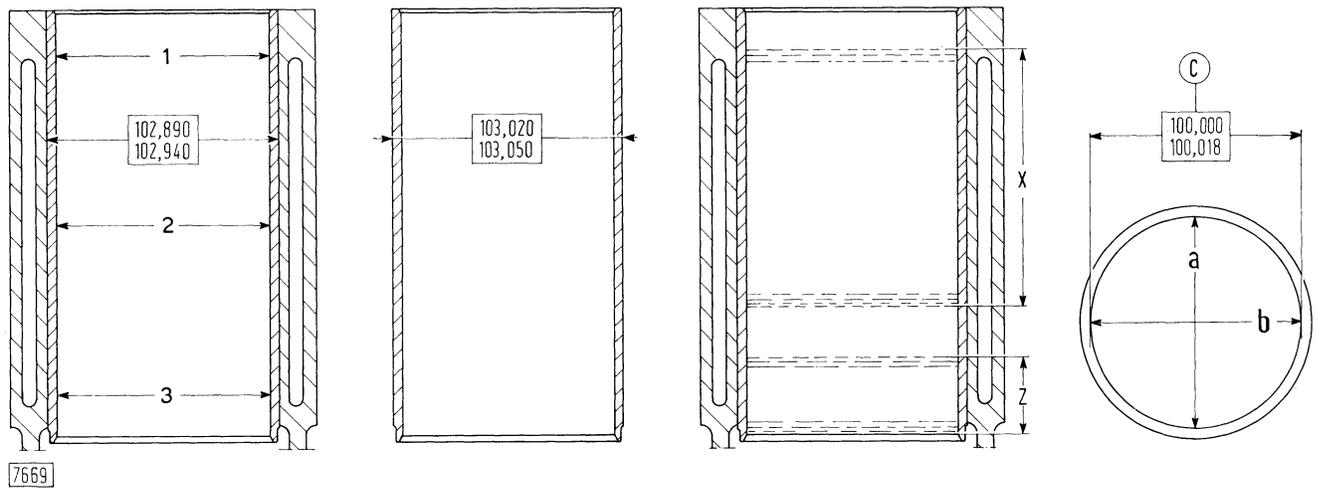
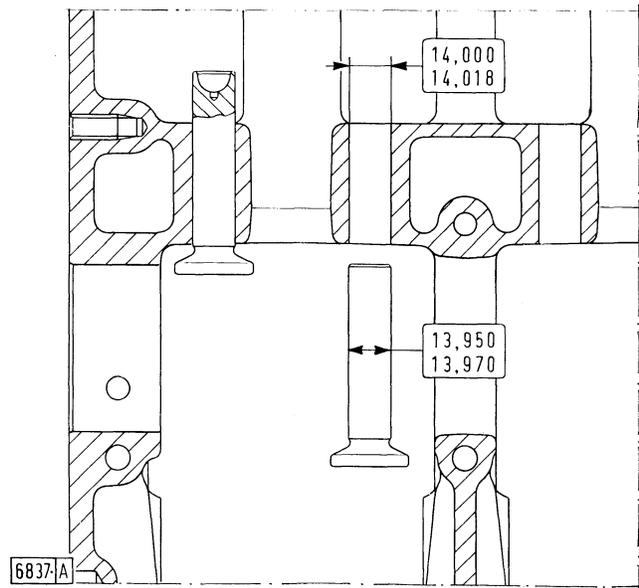

Fig. 8 - Liner and Block Details and Wear Data
Fig. 18 - Tappet and Housing Details
<p>Engine Block</p> <p>Liner bore diameter machining oversize (see Fig. 8)</p> <p>Tappet housing machining oversize range (see Fig. 18)</p> <p>Camshaft bearing housing diameter</p> <p>Main bearing housing diameter</p>	<p>.2 mm (.008 in.)</p> <p>.1 - .2 - .3 mm. (.004 - .008 - .012 in.)</p> <p>See Fig. 14</p> <p>80.587 to 80.607 mm. (3.1727 to 3.1735 in.)</p>
<p>Cylinder Liners</p> <p>A.M. standard liner I.D. ⁽¹⁾—</p> <p>— Grade A</p> <p>— Grade B</p> <p>P.M. Standard liner I.D. ⁽¹⁾ (see Fig. 8)</p> <p>I.D. machining oversize range ⁽²⁾</p> <p>Spare liner O.D. oversize</p> <p>Interference fit</p>	<p>100.000 to 100.012 mm. (3.9370 to 3.9374 in.)</p> <p>100.012 to 100.024 mm. (3.9374 to 3.9379 in.)</p> <p>100.000 to 100.018 mm. (3.9370 to 3.9377 in.)</p> <p>.2 - .4 - .6 - .8 mm (.008 - .016 - .024 - .032 in.)</p> <p>.2 mm. (.008 in.)</p> <p>.080 to .160 mm. (.0031 to .0062 in.)</p>
- Check the liner bore over the working length (see Fig. 8) as swept by the piston rings.
Then bore and grind each liner as specified. Check the bore diameter by means of a dial gauge positioned in a and b (see Fig. 8) and take the readings in planes 1, 2 and 3.
<p>Tappets</p> <p>Spare crowned tappet oversize range (see Fig. 18)</p> <p>Tappet working clearance</p> <p>— Wear allowance</p>	<p>.1 - .2 - .3 mm. (.004 - .008 - .012 in.)</p> <p>.030 to .068 mm. (.0012 to .0027 in.)</p> <p>.15 mm. (.0060 in.)</p>
Check tappet working clearance (see Fig. 18).